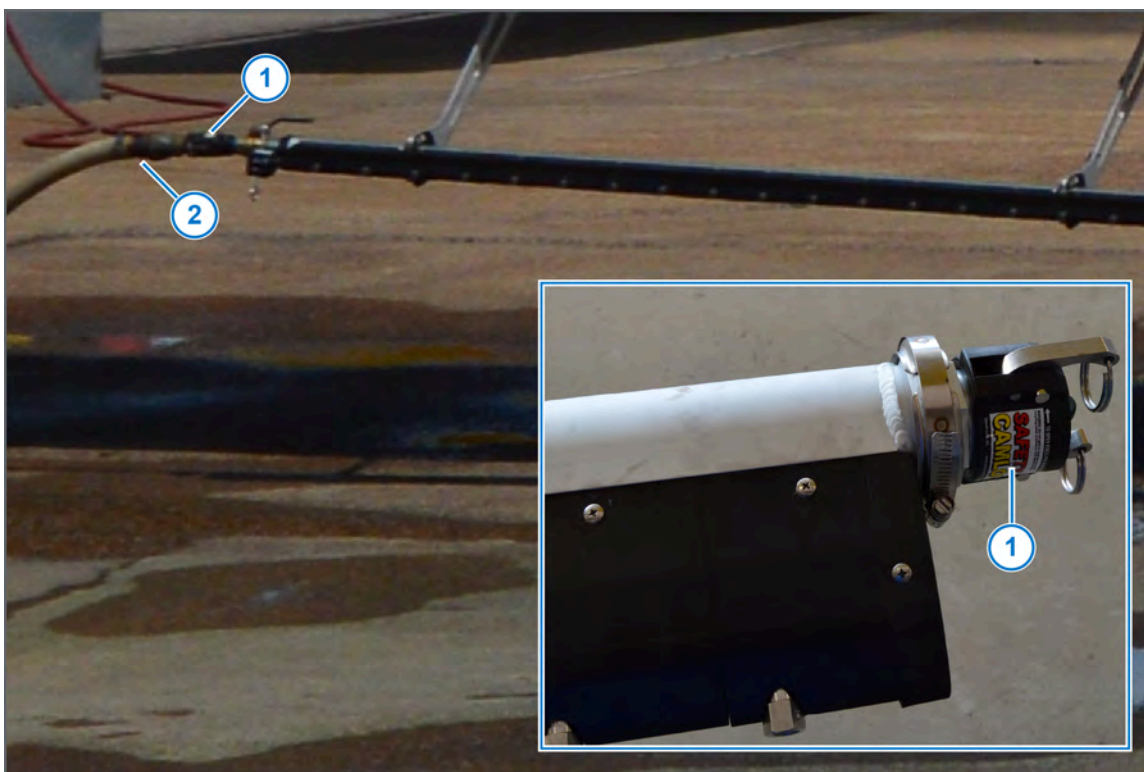

Figure 53: Connect Water Line
2. Use one of the camlock fittings (Figure 53, Item 1), located at the end of each boom, to attach a water line (Figure 53, Item 2) that can build more than 5 psi inside of the boom.